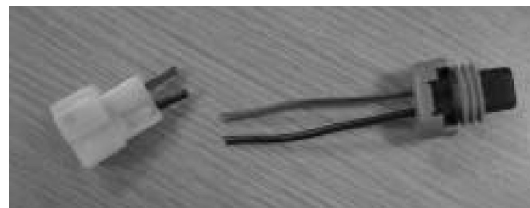

Figure 3
- A. Cut the supplied jumper wire at the location shown in figure 3.